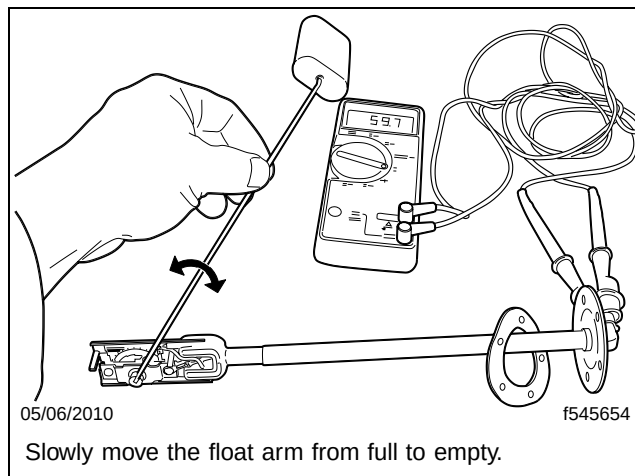

Fig. 8, Testing the Two-Wire Fuel Level Sending Unit
- 5.3 Connect an ohm meter to the pins at the fuel level sender connector. Slowly change the level of the float arm from full to empty. See **Fig. 8**.